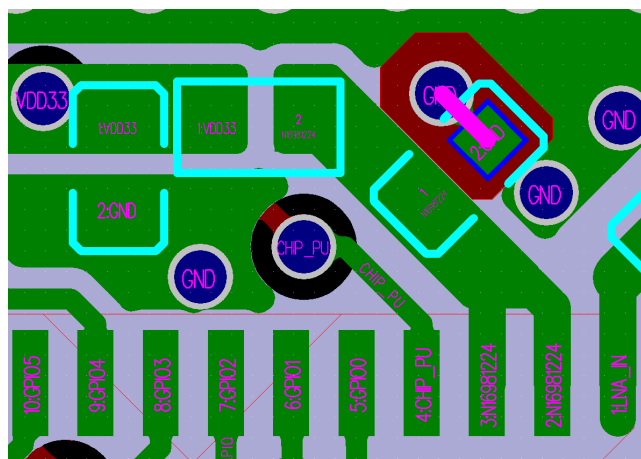

Figure 18: ESP32-S3 Analog Power Traces in a Four-layer PCB Design
- As shown in Figure 18, it is recommended to connect the capacitor to ground in the CLC filter circuit near VDD3P3 pins to the bottom layer through a via, and maintain a keep-out area on other layers, so as to further restrain harmonic disturbance.